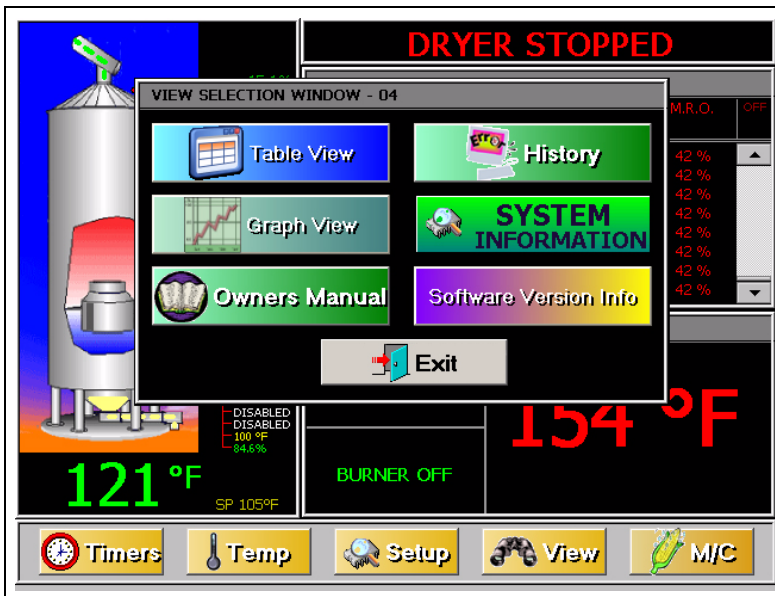

Figure 5R
Choose the  **View** button to open the “View Selection Window”. (See Figure 5R.) The following six (6) options are displayed: